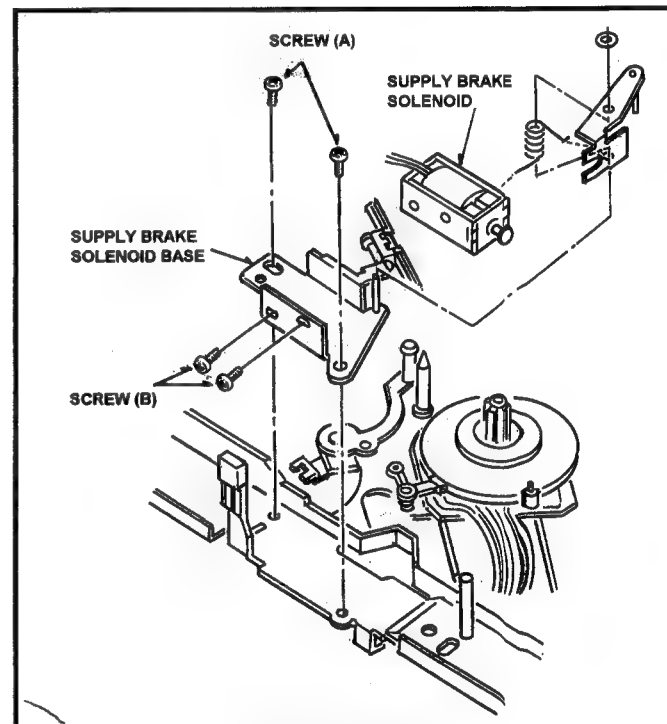

Fig. 6-5-1 Removal of Supply Brake Solenoid
5. Unscrew the 2 screws (A) and remove the Supply Brake Solenoid Base Unit as shown in Figure 6-5-1.